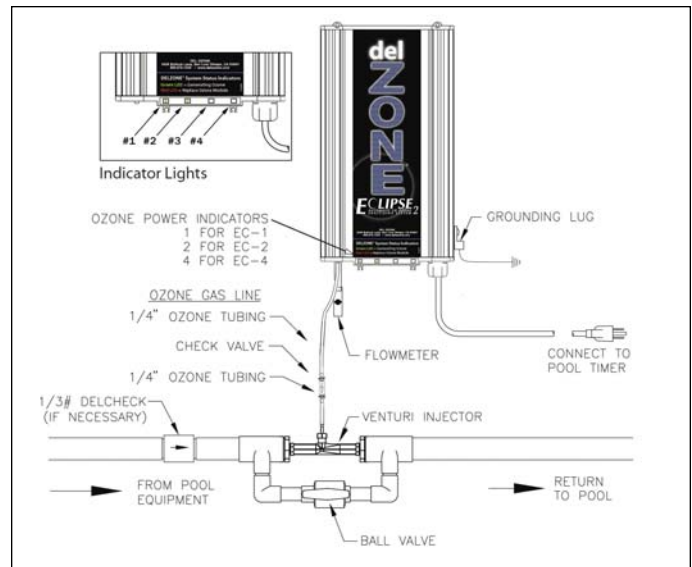

Figure 3 Installation Diagram
2D-3. Ozone Gas Line - refer to Figures 3 & 4
3. Adjust the injector manifold ball valve to half open (45°) as shown in Figure 3.